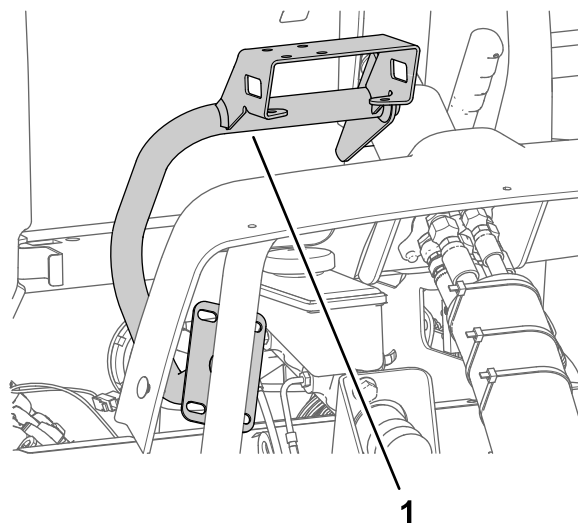

Figure 159
1. Align the monitor mount to the machine as shown in Figure 159.